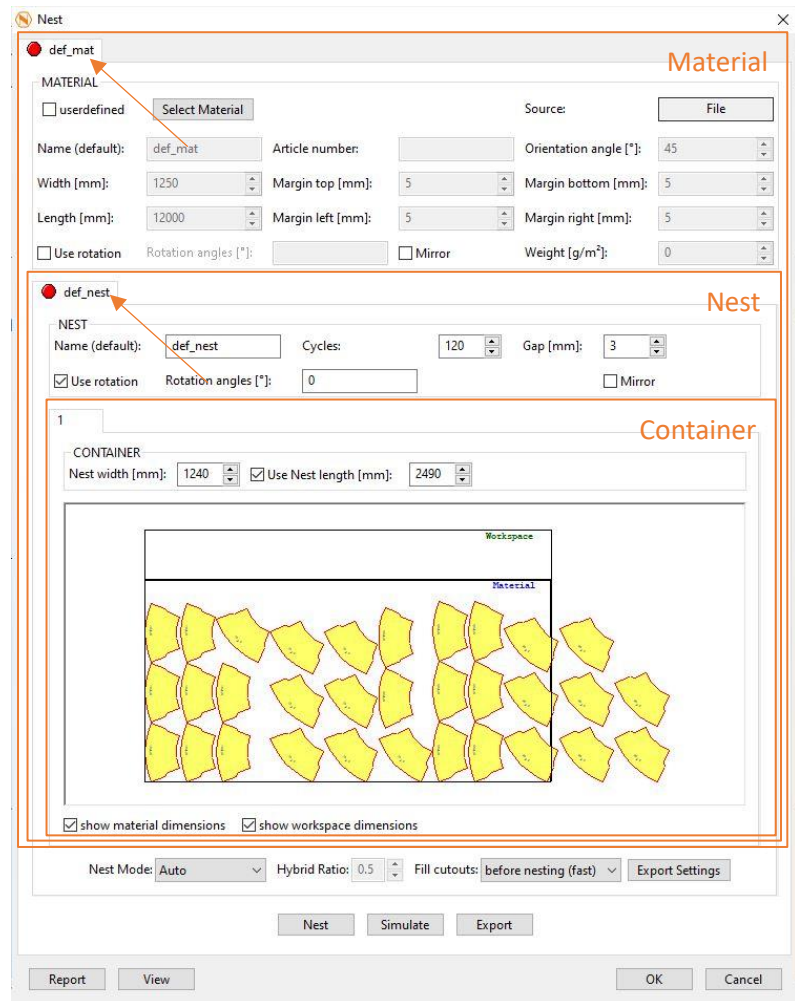

Figure 124
If cut generation and NestKing Command interpretation was successful, the Nest Dialog pops up. As highlighted in Figure 124 this Nest Dialog can be split into three levels:
- 1. Material level:** For our Bulkhead cuts we have no material assigned so the default material is used (def_mat) (Figure 124).